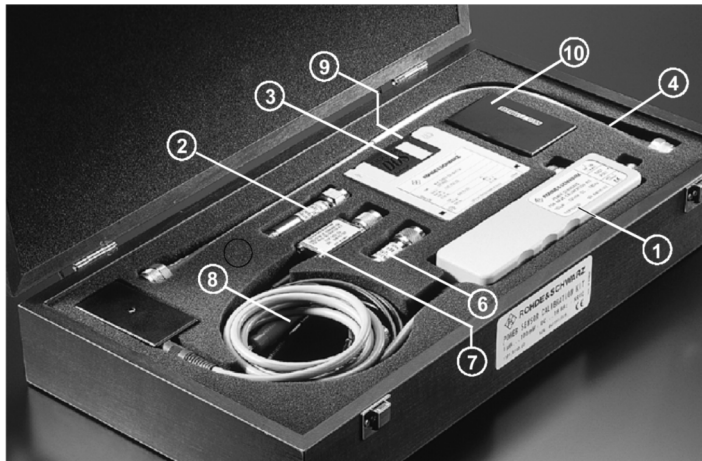

Fig. 2-1 R&S®NRVC calibration kit
The R&S®NRVC calibration kit is based on the technology used in the R&S®NRV thermal sensors. They convert the supplied RF power into an analog voltage that is made available on the interface to the base unit. Following digitization and numerical correction, the base unit computes the RF power measurand. The correction factors that are used and their uncertainties are stored in the power standard's data memory ① (Fig. 2-1). The equivalent reflection coefficients for the test port and the S-parameters for the reference attenuator ② are saved in separate files on the storage medium ⑨.
Depending on the options fitted, the R&S®NRVC calibration kit is supplied in one, two or three storage cases (Fig. 2-1 to Fig. 2-2 and Table 2-1 to Table 2-2).